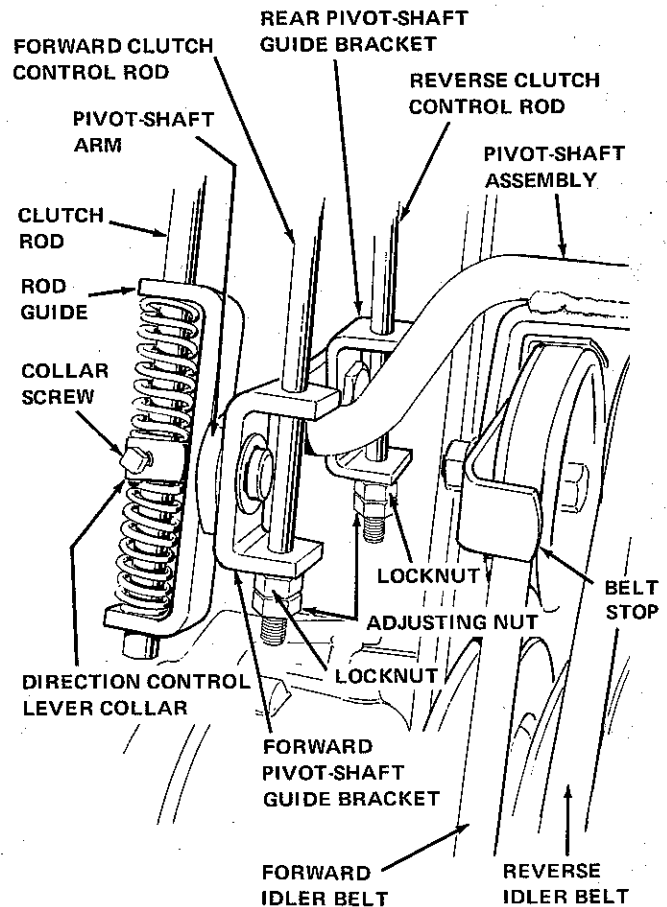

Figure 5-4. Direction Control Lever Neutral, Clutch Pedal Relaxed
A. Clutching occurs when either forward or reverse pulleys create tension on their respective belts (Figure 5-4). Tension is made when the pivot-shaft arm is pivoted in either a forward or reverse direction by the direction control lever on the right side of the vehicle below the operator's seat. The pivoting compresses a control rod spring on an adjusting nut on either the forward or reverse clutch control rod and releases the rod spring of the remaining control rod.
The following procedure is to be followed when the pivot-shaft assembly (Figure 5-4) is moved to obtain sufficient forward and reverse idler belt tension. The procedure should
C. Loosen direction control lever collar screw and a locknut and adjusting nut on each control rod (Figure 5-4).
D. Manually rotate pivot-shaft assembly from forward to reverse position. Rod guide should travel $11/16$ to $13/16$ of an inch along clutch rod (Figure 5-4).
F. Secure direction control lever collar in the middle of rod guide travel by tightening collar screw (Figure 5-4).
G. Position control lever in full FORWARD and place clutch pedal in disengaged position on footrest. Run locknut up to $1/4$ " from forward pivot-shaft guide bracket (Figure 5-4); Secure locknut in place with adjusting nut.
H. Position control lever in full REVERSE and place clutch pedal in disengaged position on footrest. Run locknut up to $1/4$ " from rear pivot-shaft guide bracket (Figure 5-4). Secure locknut in place with adjusting nut.